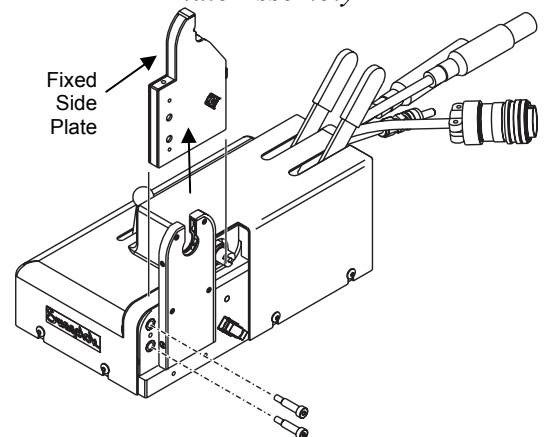

Figure 34 *Removing the Fixed Side Plate*
8. Pull the fixed side plate off of the fixture. See Figure 34.